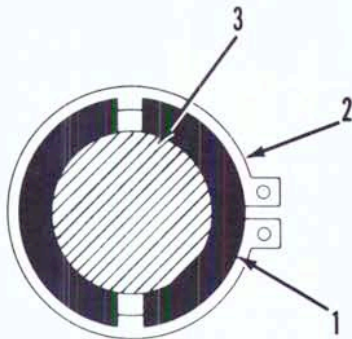

Fig. 129—Position set collars (1) and snap rings (2) as shown when reinstalling differential pinion shafts (3) on Models L295, L305, L345 and L355.
cover. Align match marks on side and pinion gears made prior to disassembly. Position set collars (1—Fig. 129) and snap rings (2) as shown. Tighten bevel ring gear mounting bolts to a torque of 61-70 N·m (45-50 ft.-lbs.) Be sure lockplates (1—Fig. 128) cover dowel pins (2).